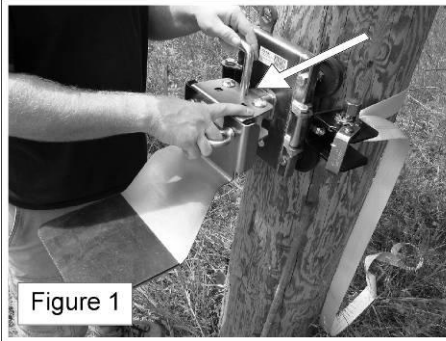

Figure 1
- 1) Insert the winch support plate and fasten it down with the bent pin and "R" pin (figure 1);